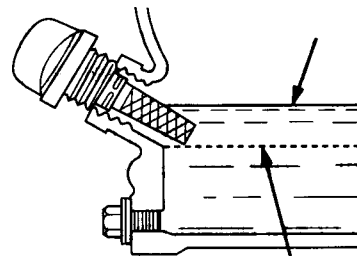

Figure 8. Engine Oil Dipstick (Oil Level)
4. If the oil level is low (Figure 8), fill to the edge of the oil filler hole with the recommended oil type (Table 3). Maximum oil capacity is 0.59 quarts (.56 liters).